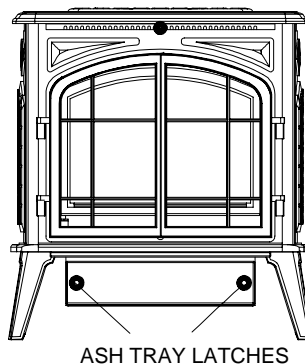

Figure 25. Ash tray for **KOZI** Previa Cast Iron pellet stove.
6. To remove ashes in the burn chamber area you will need to remove the ash tray. Turn the 2 coil handles, located on the ash tray as shown in Figure 25, counter-clockwise to release the latch mechanism. Pull the ash tray out and place all of the ashes into a metal container with a tight fitting lid. Replacement of ashtray is reverse of removal. An alternate method to cleaning the ashes in the burn chamber area is to purchase a pellet vacuum. These vacuums are specifically designed for the removal of ashes in a pellet stove. Please visit the website www.lovelessash.com to find the closest dealer near you.